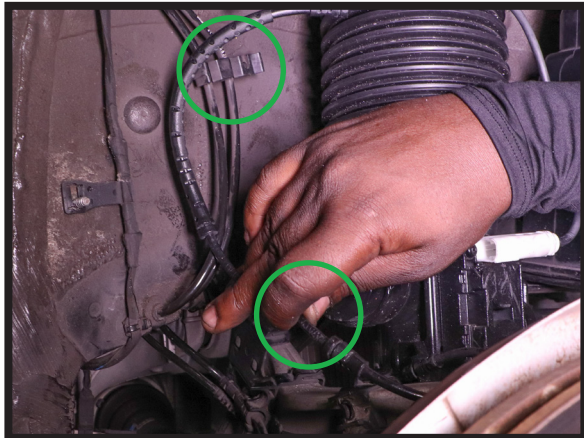

FIGURE 25
5. RECONNECT THE STRUT'S ELECTRICAL CONNECTION AND CLIP INTO PLACE. (FIGURES 25, 26)